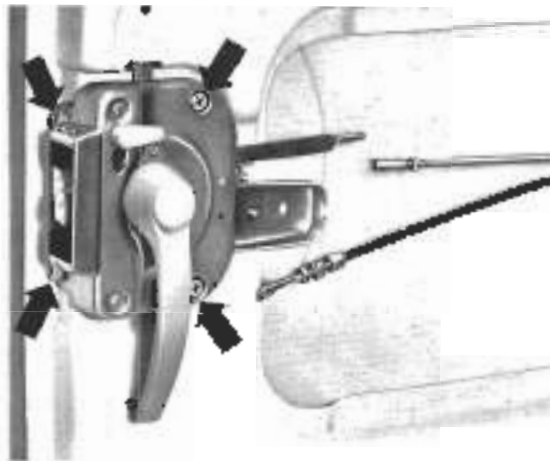

Fig. 5-46. Lock removal (from 1971). Disconnect cable and rod, then take out the screws (arrows).
- On 1971 and later models, remove the circlip that holds the cable eye on the lock. Loosen the cable locknut, then screw the cable adjuster in toward the remote control lock. Push the cable adjuster out of the opening in the remote control lock. Disconnect the connecting rod as on earlier models, then remove the screws indicated in Fig. 5-46.